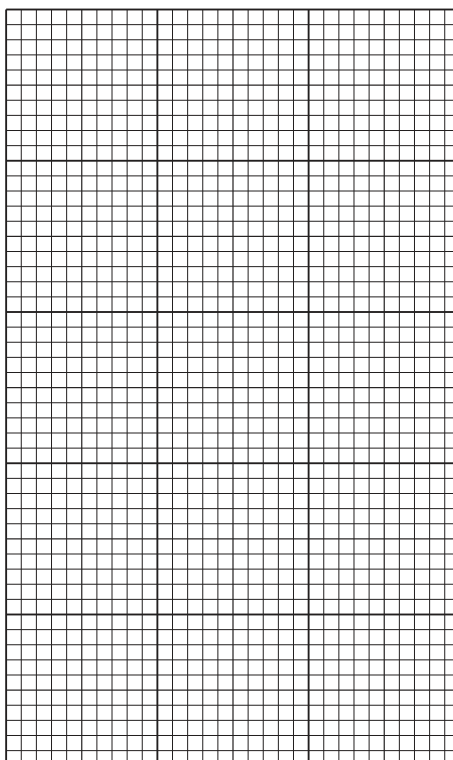

Figure 1.1
- (i) Plot a graph of the data shown in Table 1.4 on the grid in Figure 1.1.
- (ii) Use your graph in Figure 1.1 to estimate the percentage of dye removed at pH7.